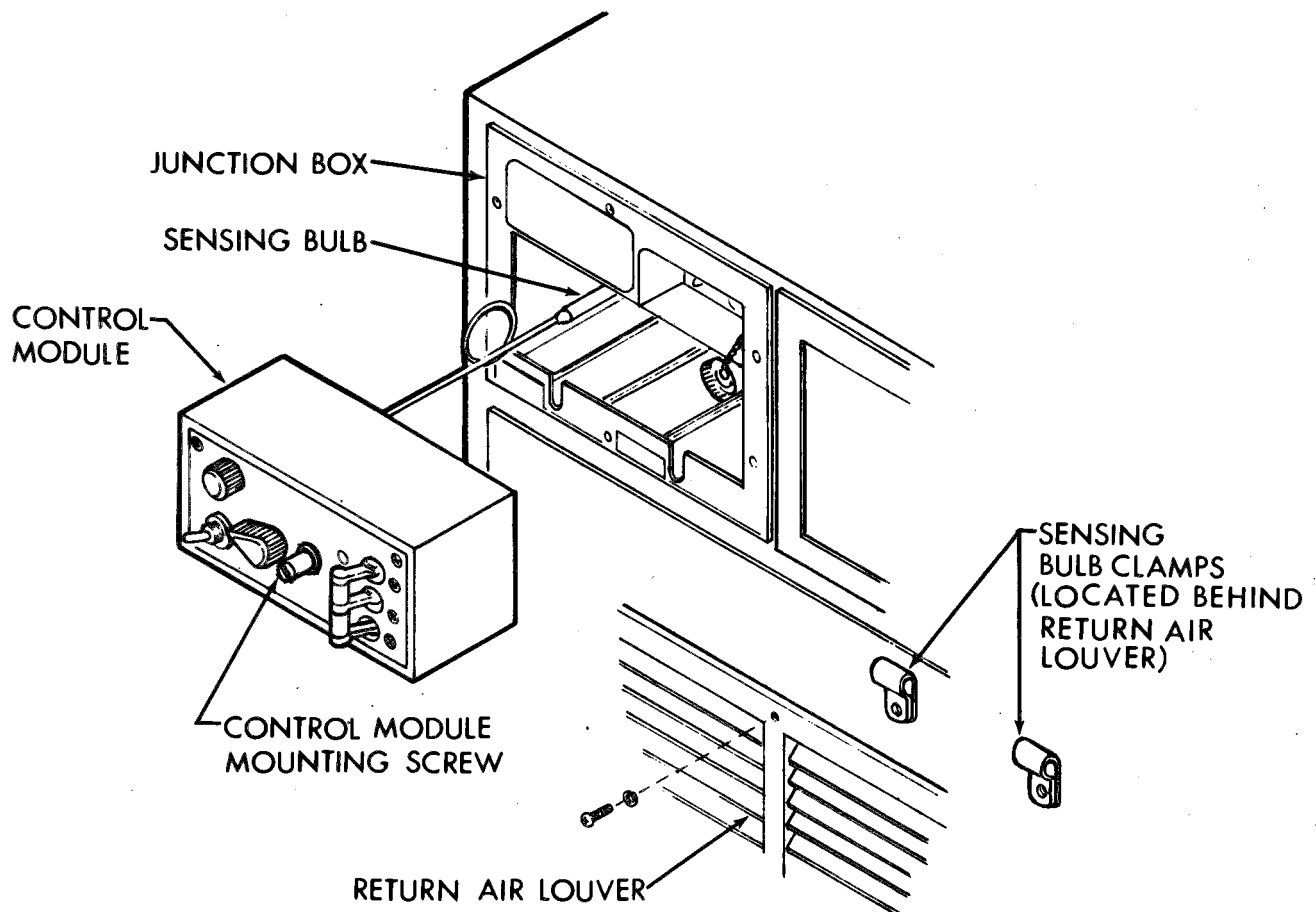
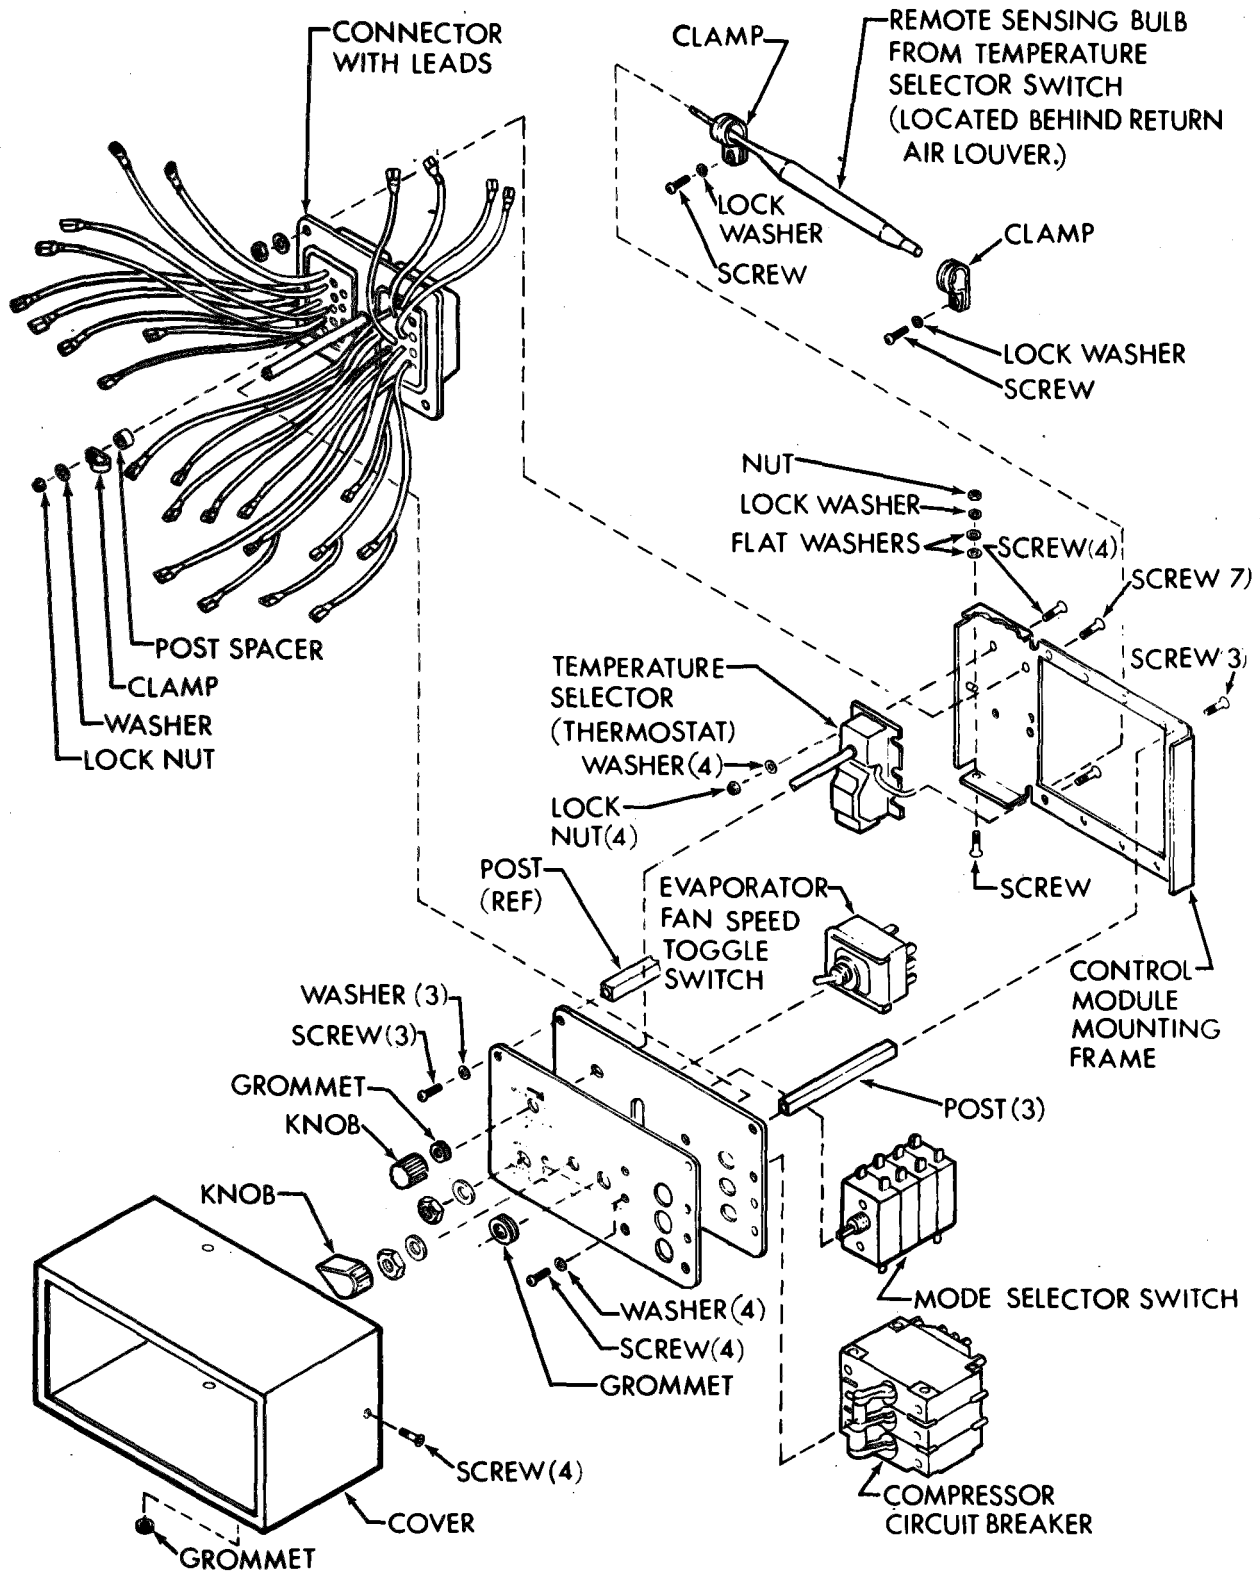

Figure 4-16. Control Module Removal
Figure 4-17. Control Module
The control module is normally located in the upper left front corner of the unit. (See fig. 4-16.) It can be remote mounted, see paragraph 4-4a(2).
- (1) Disconnect power at power source.
- (2) Remove eight screws and return air louver.
- (3) Loosen sensing bulb clamp screws and slip sensing bulb out of clamps.
- (4) Loosen control module mounting screw and carefully pull control module out of unit. Use care to avoid damage to sensing line.
- (5) Carefully work sensing bulb through the frame and out of unit.
b. Test/Repair. (See fig. 4-17.)
- (1) See paragraphs 4-22 through 4-26 for testing of individual components.
- (2) Repairs are limited to replacement of individual components and repair of wire connections.
d. Installation. (See fig. 4-16.)
- (1) Carefully work sensing bulb through junction box frame and into two mounting clamps behind return air louver.
- (2) Tighten clamp screws.
- (3) Slip control module into the opening in junction box. Take care not to crush or kink sensing bulb capillary line.
- (4) Tighten control module mounting screw.
- (5) Install return air louver and secure with eight screws.
- (6) Connect power at power source.